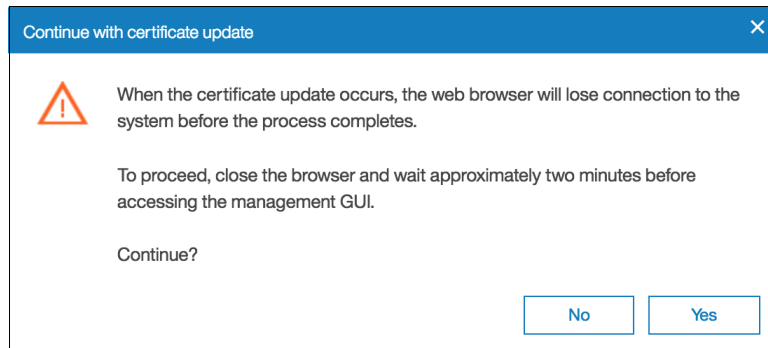

Figure 7-38 Certificate update warning
8. You are prompted to confirm the action, as shown in Figure 7-38. Click **Yes** to proceed. The signed certificate is installed.